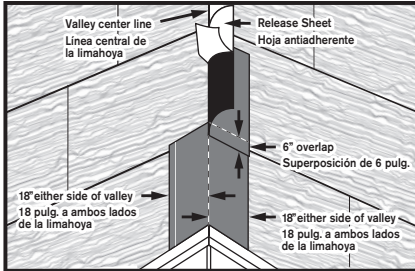

Figure 1 Figura 1
(B) The underlayment should be applied in valleys before doing eave applications with underlayments. Along a roof valley, underlayment can be installed as a liner. For maximum protection, the roll width should remain intact and extend 18 inches on either side of the valley. Peel back the poly backer sheet and press underlayment into place working from the center of the valley or ridge outward in each direction. Always apply valleys starting at the low point and work upwards. If an overlap is needed be sure to overlap the previous piece by 6 inches (15.24cm). (See Figure 1)